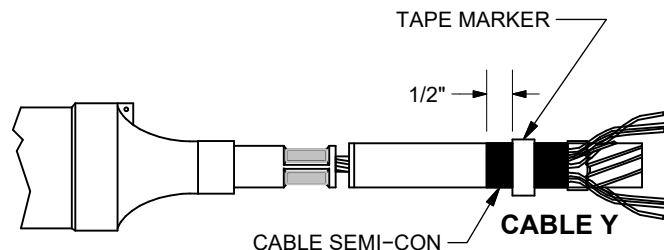

Figure 3
9. Place a tape marker on cable "Y" semi-con, 1/2" from the end of the cable semi-con. See Figure 3.